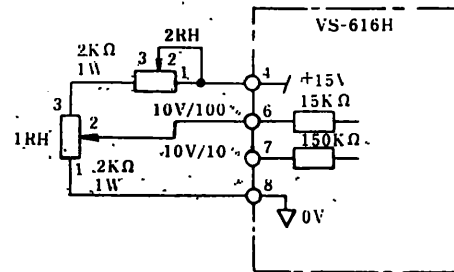
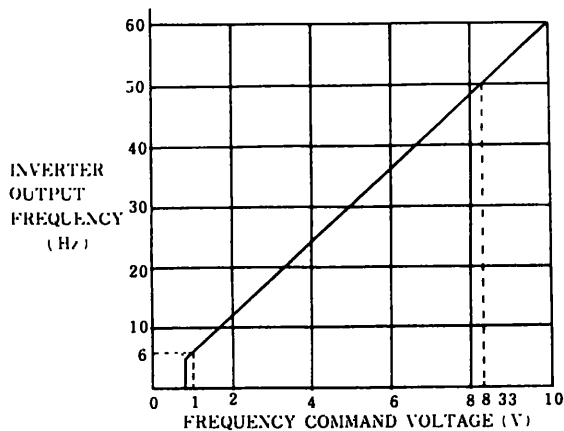

Fig. 6.2 Frequency Setting Signal of H Series
Fig. 6.3 Frequency Setting Characteristics of Series G
For frequency setting control power, +15V is available at terminal (4), in Fig. 6.2. This voltage is divided by the variable resistors 1RH and 2RH. Adjust 2RH to obtain the maximum output voltage of 10V across 1RH. For both variable resistors 1RH and 2RH, a 2 k Ω 1W resistor should be used. The frequency command voltage across terminals (6) and (8) and the inverter output frequency are as shown in Figs. 6.3 and 6.4.